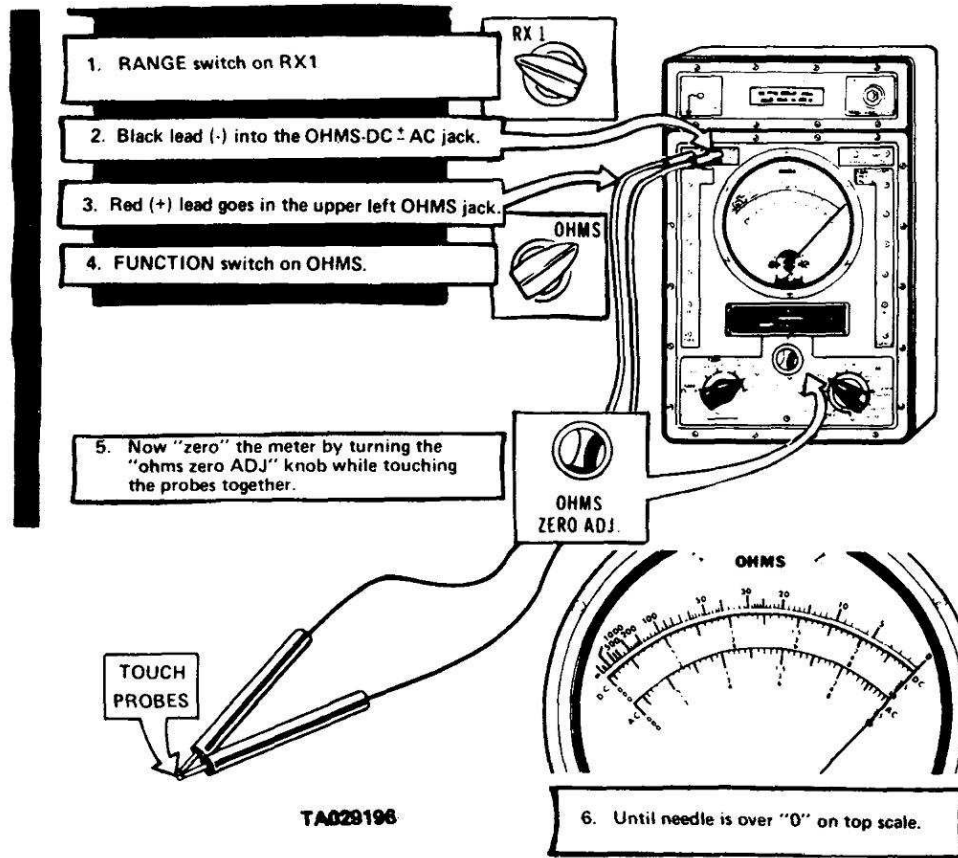

Figure 2-15. Zeroing the TS-352 B/U.
(2) *TS-352 B/U.* Use the procedure shown in figure 2-15.